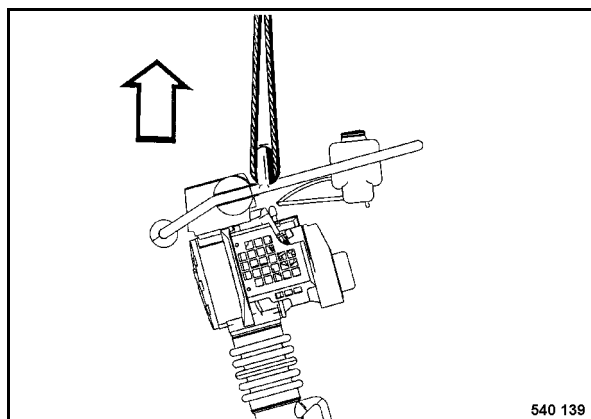

Fig. 29
- For loading the machine attach the lifting gear only to the cross strut of the steering handle (Fig. 29).